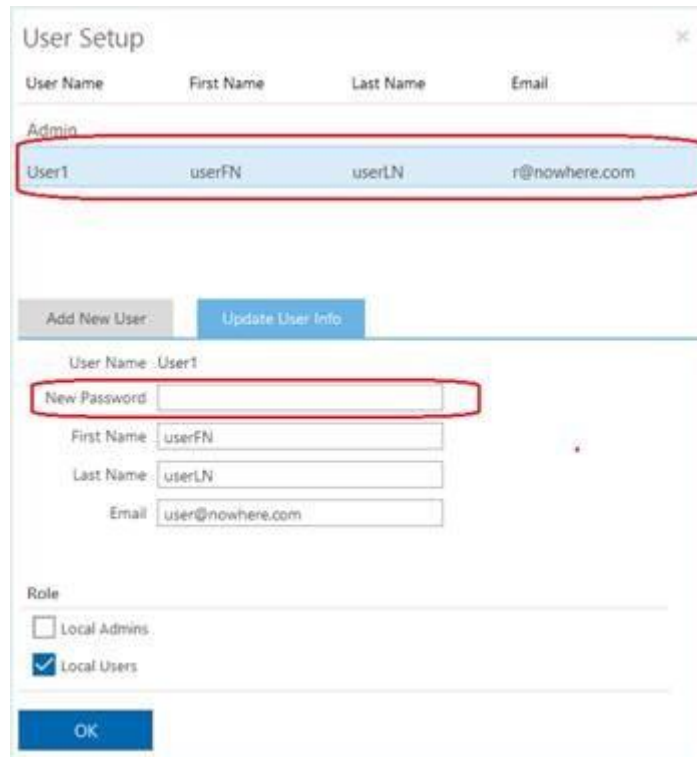

Figure 29: Password Reset
- To reset the password of an active account, select the existing account from the user list. Under the **Update User Info** tab, enter the new password and press **OK** (Figure 29).